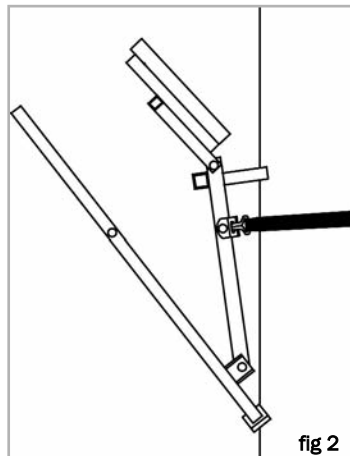

fig 2
Step 2: Wrap **TREE STRAP** around tree and attach each hook into **TREE BRACKETS** (fig 2).